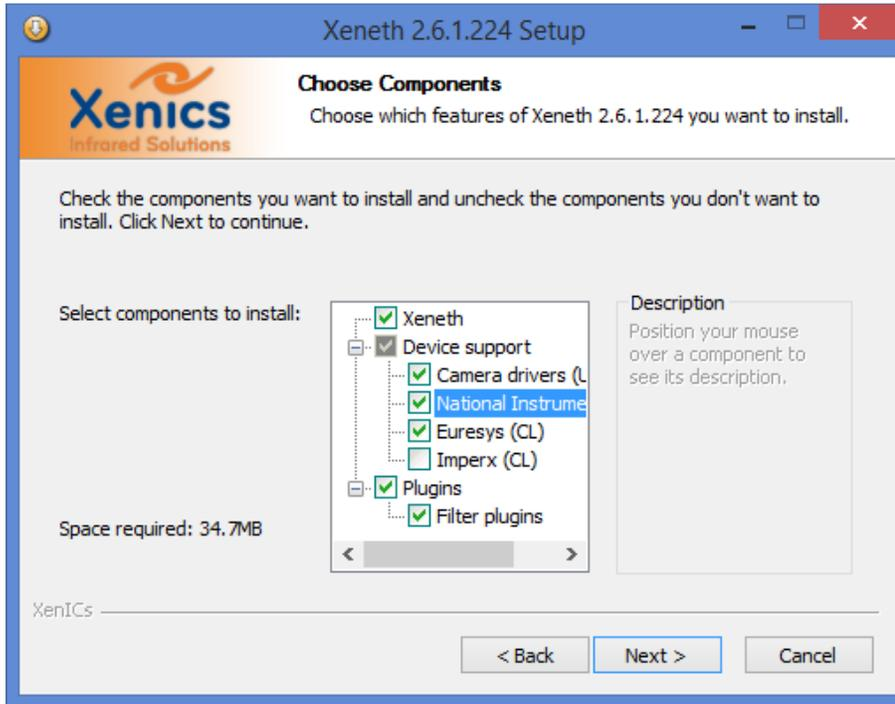

Figure 3-4 Components selection page
3. Install Xeneth (see chap. 3.2) and mark the frame grabber checkbox (Figure 3-4).
Proceed by checking the 'I accept the terms in the License Agreement' checkbox. When clicking 'Next' the *Language* → *Welcome* → *License* → *Components* page is shown (see Figure 3-4).
As shown in Figure 3-4, the 'Device support' category may be necessary for acquisition over third party drivers or cards, such as Camera Link™ frame grabbers.
Select this option (see Figure 3-4) to install the National Instruments frame grabber plug-in for use in combination with our Camera Link™ enabled cameras.
Select this option (see Figure 3-4) to install the Euresys frame grabber plug-in to use the GRABLINK™ series acquisition boards in combination with our Camera Link™ enabled cameras.
Select this option (see Figure 3-4) to install the IMPERX frame grabber plug-in to use the FrameLink series acquisition boards in combination with our Camera Link™ enabled cameras.